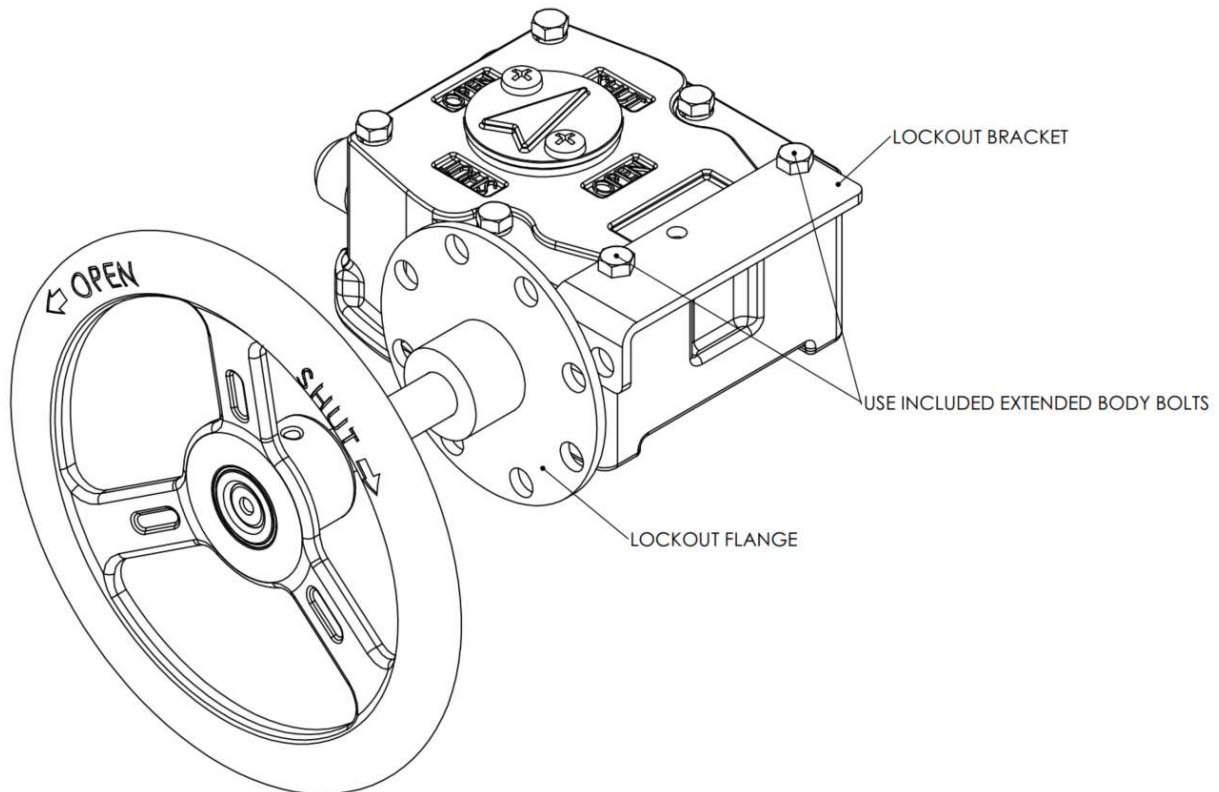

Fig. 1
Gear operator lockout can be achieved with an additional lockout kit. To install and utilize the lockout kit, refer to Fig. 1 and follow these installation steps:
Limit switch mounting can be achieved with an additional kit. To install and utilize the limit switch kit, refer to Fig. 1 & 2 and follow these installation steps:
4. Install the mounting plate using the included replacement bolts (Fig. 1).